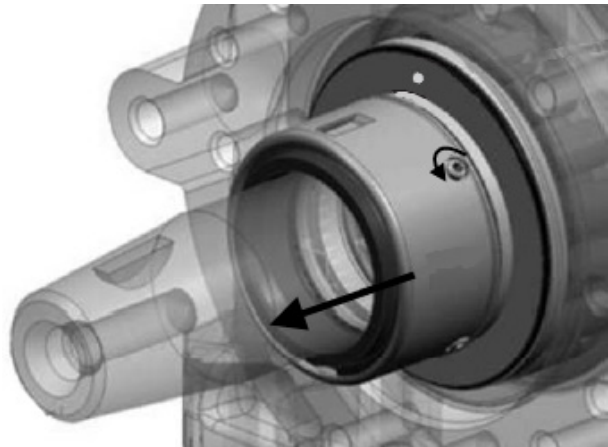

FIGURE 27: SLIDING RING REMOVAL
- Remove and discard the sliding ring (and set screws) (figure 27).